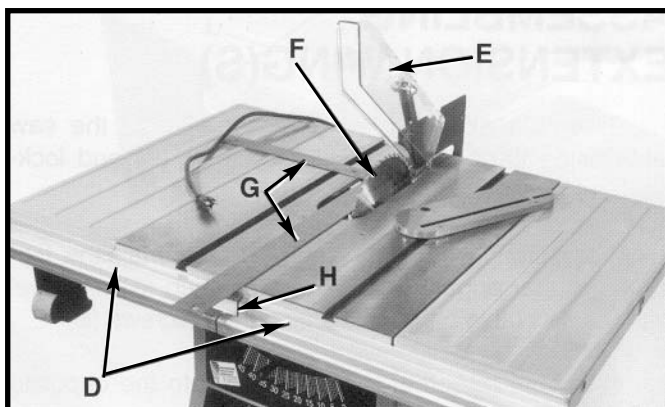

Fig. 44
5. With the power still "OFF", lift the blade guard (E) Fig. 44 and raise the saw blade (F). Using a straight edge or square (G) against the saw blade (F), position the edge of the guide rails so the separation (H) is in line with the saw blade.